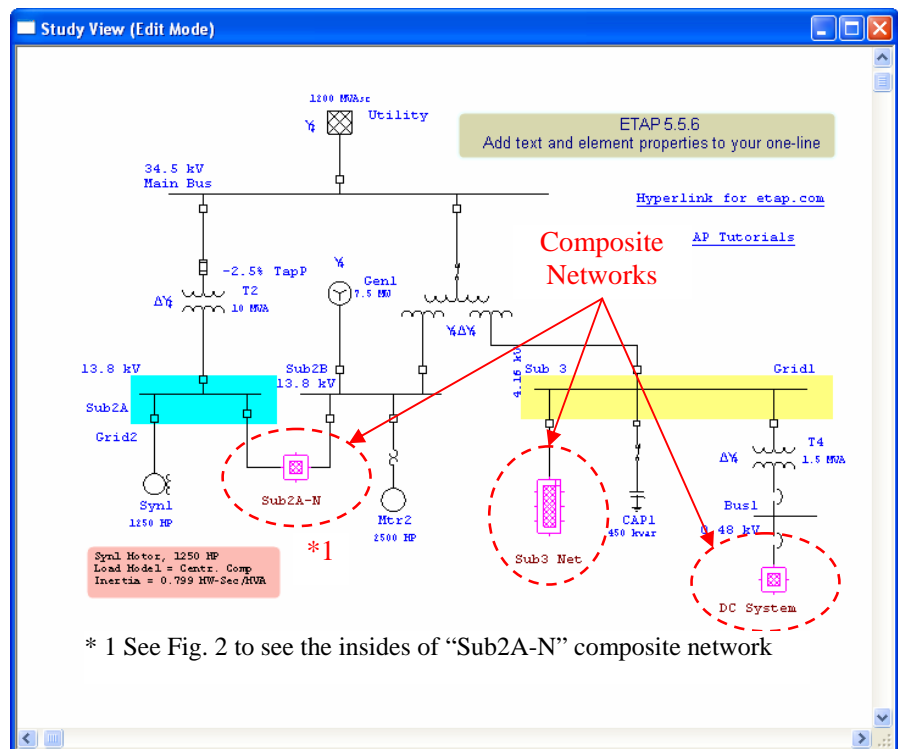

Fig. 1
The concept of “Composite Network” was integrated in ETAP to provide flexibility in simplifying and organizing the electrical One Line diagram. The “Composite Network” gives the ability to model a part of the network as a single element on the One Line Diagram. Apparently, this single element gets its common name as a “Composite Network” which represents the part of the network (sub-network). The details of which are drawn on another One Line Diagram Presentation (as if they are drawn on another sheet of paper) as a nest of the former diagram. See Fig. 1.
On the “Study View” One Line Diagram presentation, three (3) composite networks are involved namely “Sub2A-N”, “Sub3 Net” and “DC System”. See Fig. 1